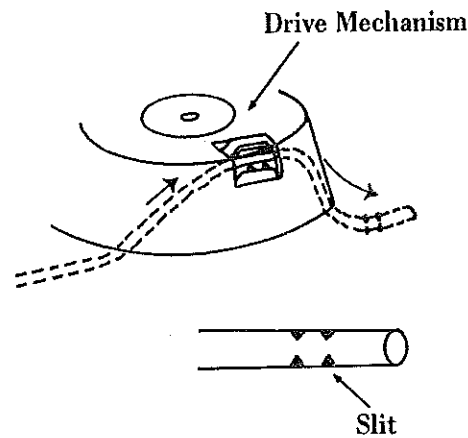

Figure 5
3. Insert drive cable into drive mechanism and pull out. With a knife or file, make four small slits on the end of cable (Figure 5) to match indentations of drive mechanism.